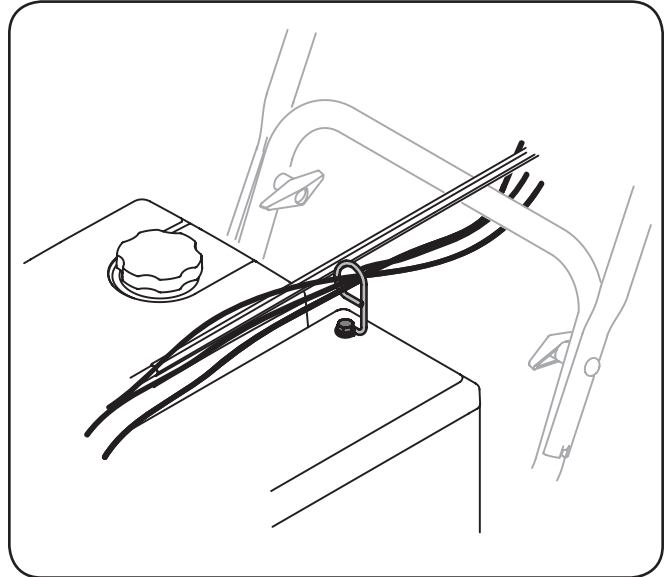

Figure 3-10
9. Check that all cables are properly routed through the cable guide on top of the engine. See Figure 3-10.